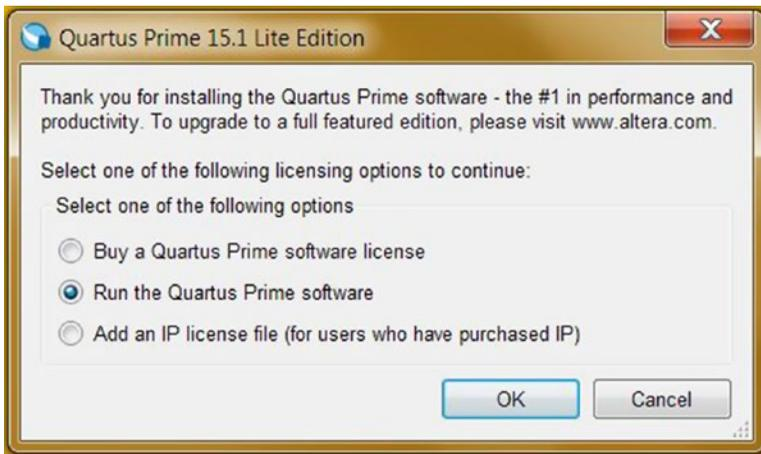

Figure 3-20. *Quartus Prime 15.1 Lite Edition licensing options*
9. Select **Run the Quartus Prime software** and click **OK** in Figure 3-20. It means that you selected the Lite edition. The Lite edition doesn't need any software license to run it.